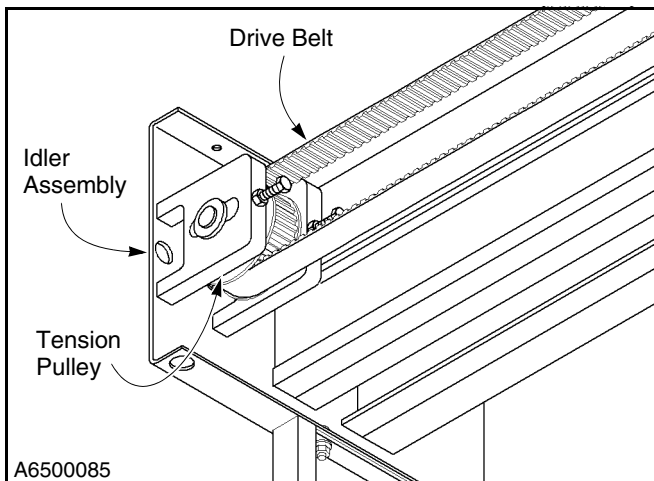
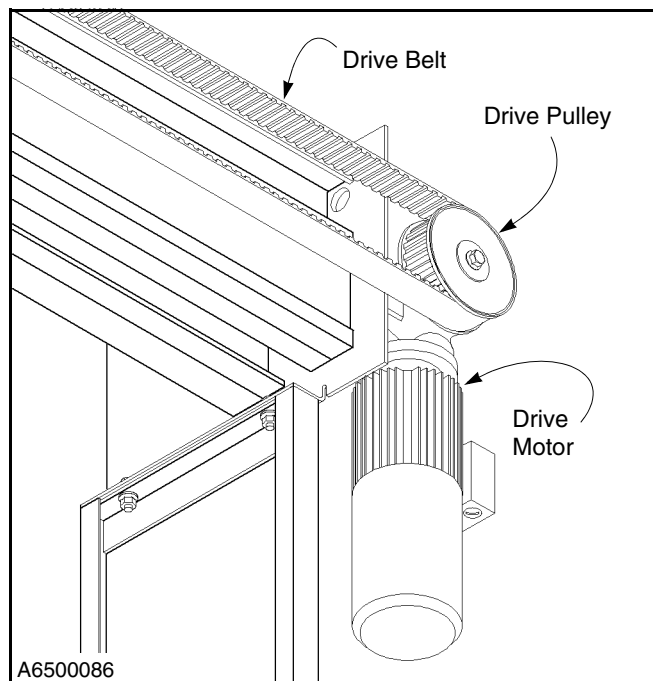

Figure 20
Figure 21
2. Inspect the drive belt. The belt should not be frayed, cracked, worn, or damaged. Also check for any damaged or missing teeth. Replace the drive belt if necessary. (See Figure 20 and Figure 21.)